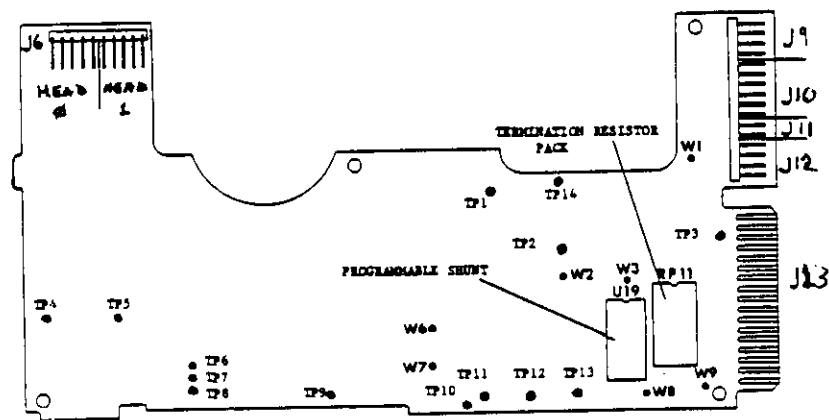

FIGURE 6-1
3. Connect all cable plugs (Figure 6-1).